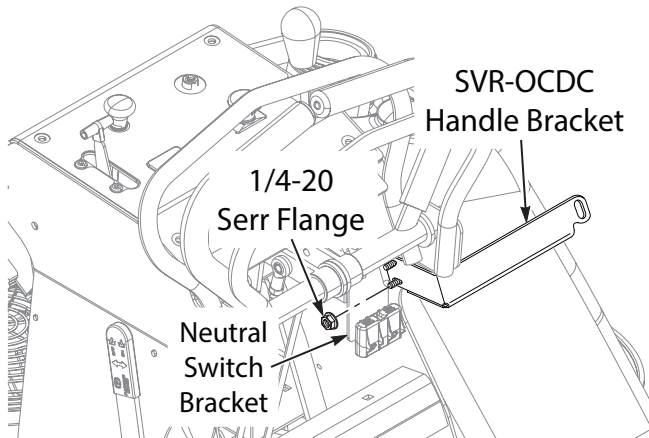

Figure 3-39. SVR OCDC Handle Bracket Install
1. Remove and retain two (2) 1/4-20 serrated flange nuts used to secure the neutral switch bracket to machine frame. See Figure 3-39.
2. Install the OCDC handle bracket to the machine frame and neutral switch bracket. Secure using two (2) 1/4-20 serrated flange nuts removed in the previous step. See Figure 3-39.